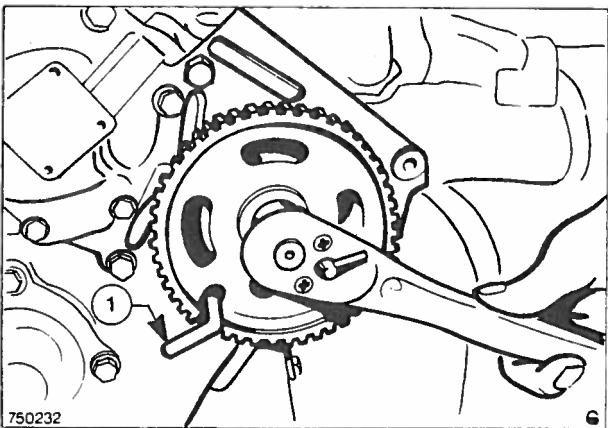

Fig. 8 Locking the camshaft gear
12. Remove the timing belt tensioner, timing belt and crankshaft hub, leaving the locking bar attached. Lock the camshaft gear, using timing gear alignment pin Tool No. 21-016 (Fig. 8) and remove the camshaft centre bolt and gear.